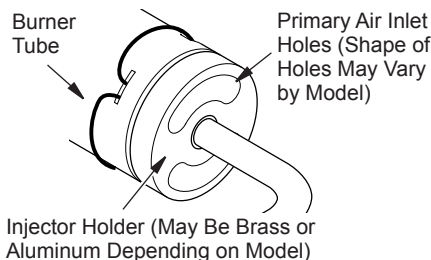

Figure 25 - Injector Holder On Outlet Burner Tube
2. Inspect burner, pilot and primary air inlet holes on injector holder for dust and dirt (see Figure 25).